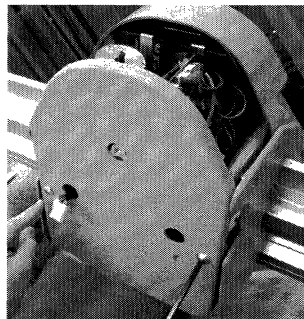

Fig. 4
- d. Using a 6mm Allen wrench, remove two (2) button head screws securing front carriage cover (Fig. 4).